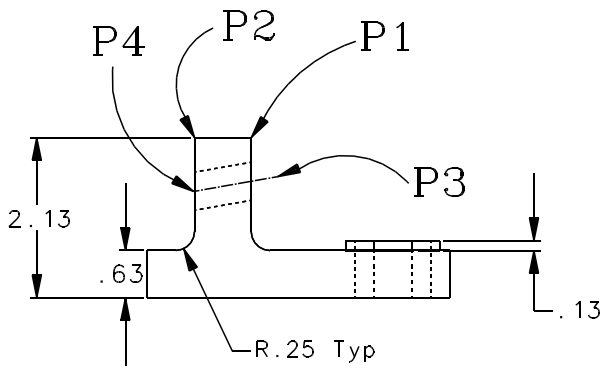

Figure 55
- 152. Click on points P1, P2, P3, and P4 in the order indicated in Figure 55.